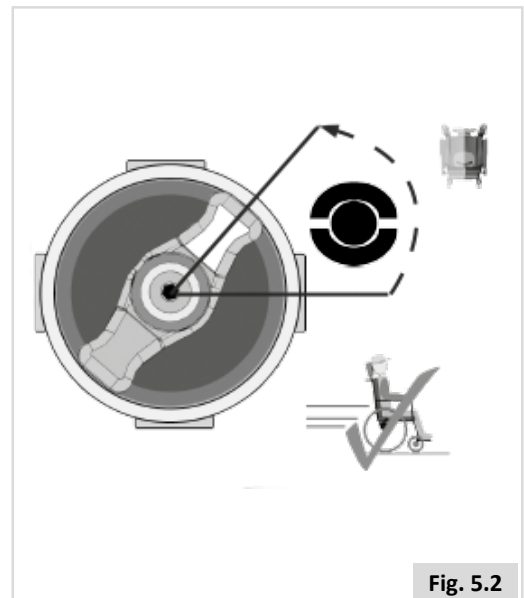

Fig. 5.2
1. For driving the wheelchair. (Fig. 5.2)